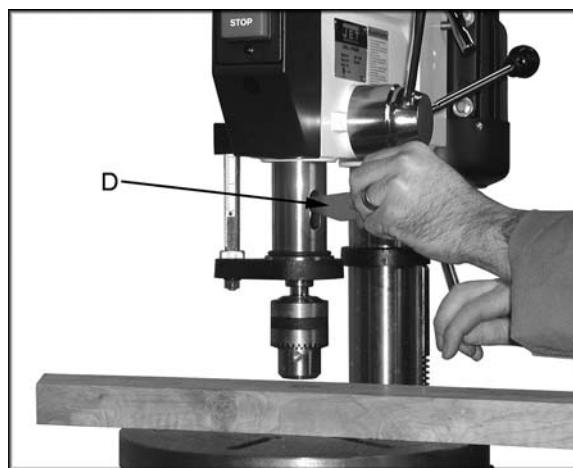

Figure 6
5. Insert the drift key (D, Figure 6) into the aligned slots and tap lightly. The chuck and arbor assembly should fall from the spindle.